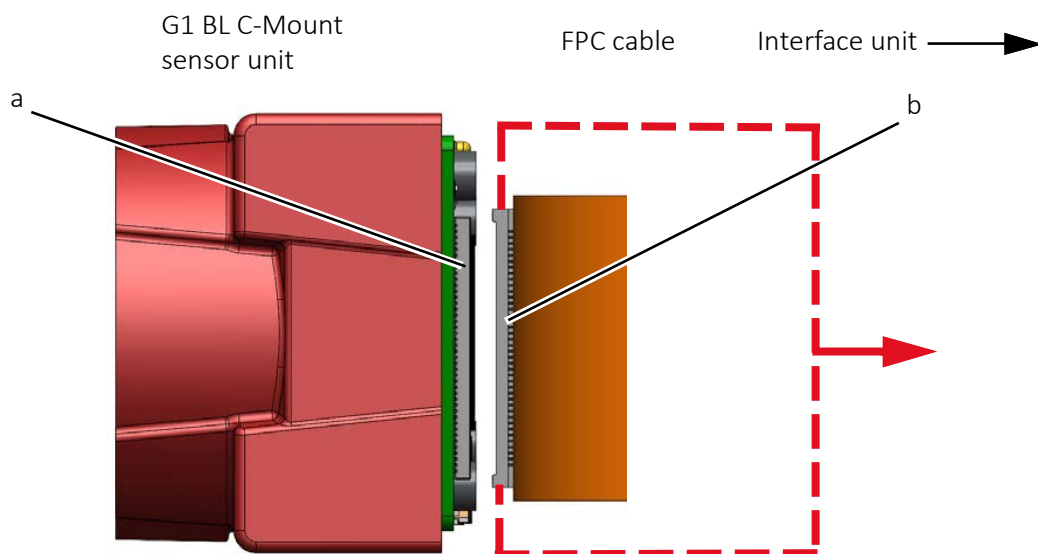

Figure 63: Disconnecting the interface unit from the sensor unit
- Disconnect the FPC cable **only** on the sensor unit side as shown in Figure 63.
2. With 2 fingers grabbing the cable side FPC connector (b) at the edges, disconnect the FPC cable from the FPC connector (a) of the sensor unit as shown in Figure 63.